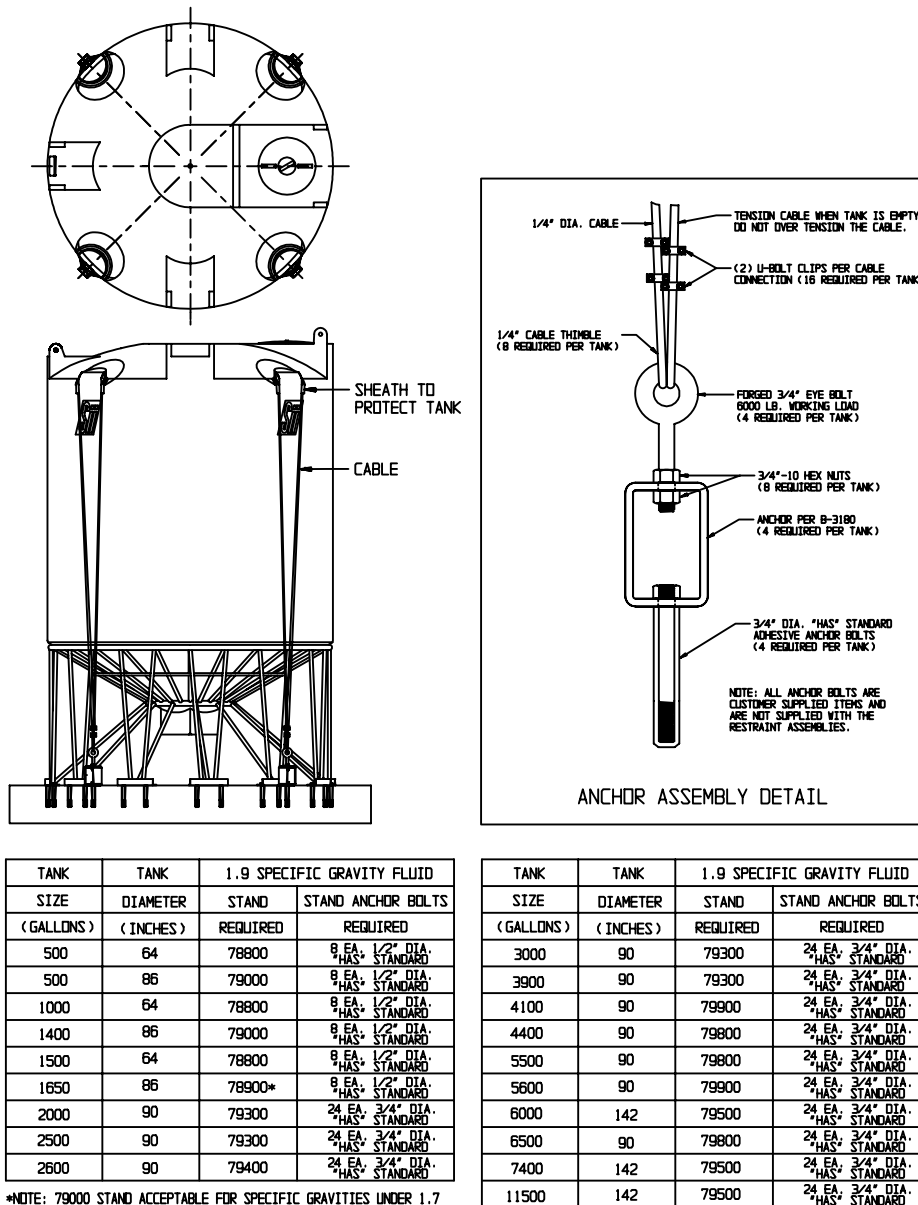

Figure 8.3
8.3.1 The wind/seismic tank restraint system is designed for cone bottom tank restraint on an appropriate concrete pad under 110 MPH wind or seismic zone 4 conditions using a SIERRA cone stand for proper tank support. Using the assembly drawing and table shown in Figure 8.3, verify that all parts are present.